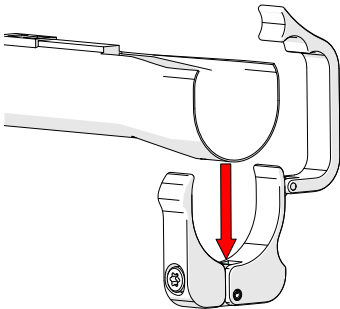

Fig. 64 - Insert tube into clamp
3. Place the end of the tube inside of the clamp, ensuring that the tube is fitted evenly (Fig. 64).